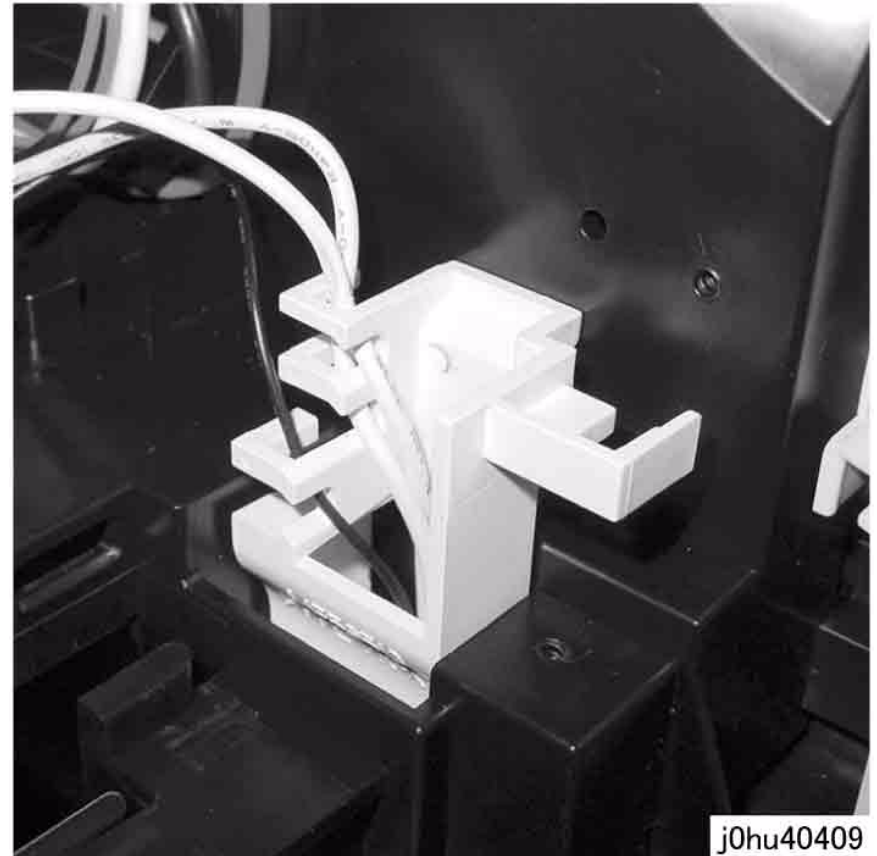

Figure 6 Attach Cables
3. Attach the cables (Ground/Detach/Transfer) to the Corotron Block hooks as shown in Figure 6.